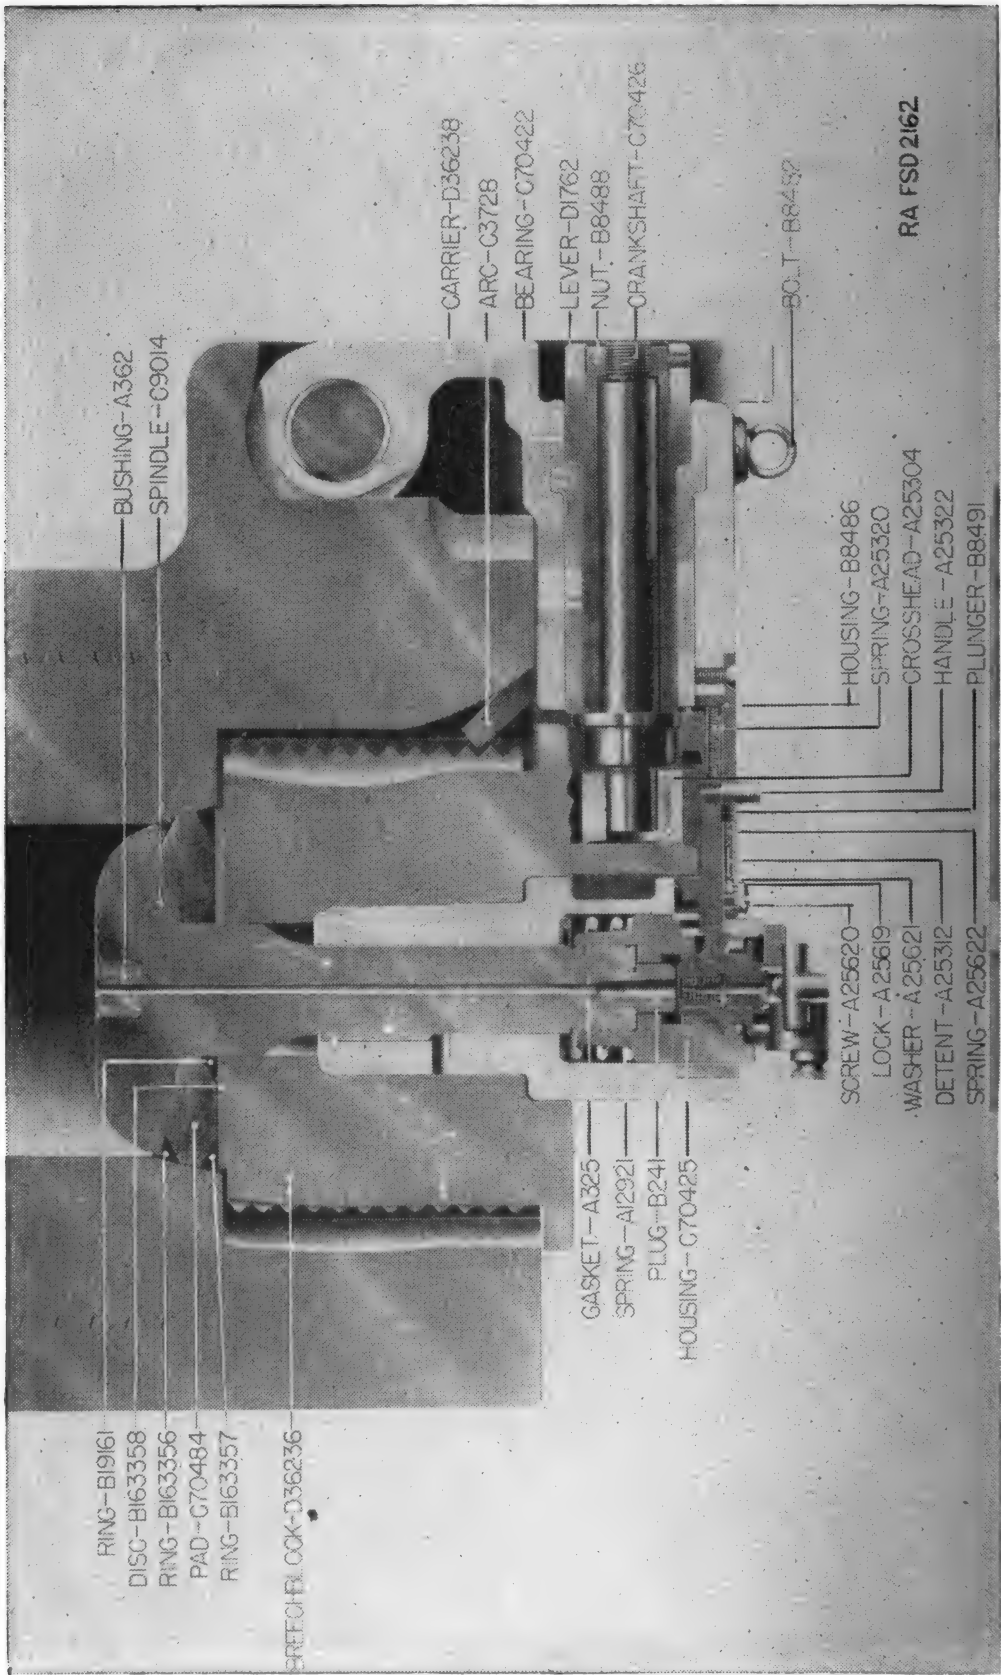

Figure 10.—155-mm gun breech mechanism—sectional view.
**5. Obturator mechanism.**—*a.* The plastic type obturator mechanism consists of the obturator spindle, front and rear split rings, inner ring, plastic gas check pad, fill-in disk, protecting disk, obturator spindle spring, and firing mechanism housing. The firing mechanism housing also acts as a nut to retain sufficient tension upon the obturator spindle to hold it in its proper position. The obturator spindle vent bushing is screwed into the head of the obturator spindle. The obturator spindle plug is screwed into the rear end of the spindle and forms the seat for the primer. A copper gasket is inserted in front of this plug to make a gastight joint. The obturator spindle passes through the breechblock and breechblock carrier. The firing mechanism housing is inserted into the breechblock carrier and is screwed onto the end of the obturator spindle, which compresses the obturator spindle spring. This draws the gas check pad and its allied parts to a tight seat on the face of the breechblock (fig. 10).
anism has been screwed all the way into its housing and locked by the firing mechanism block plunger. The percussion hammer is mounted on a lug projecting from the breechblock carrier. A percussion hammer lock pin is provided for locking the percussion hammer in neutral. The hole in the bottom of the percussion hammer is provided for the lanyard (figs. 10 and 11).